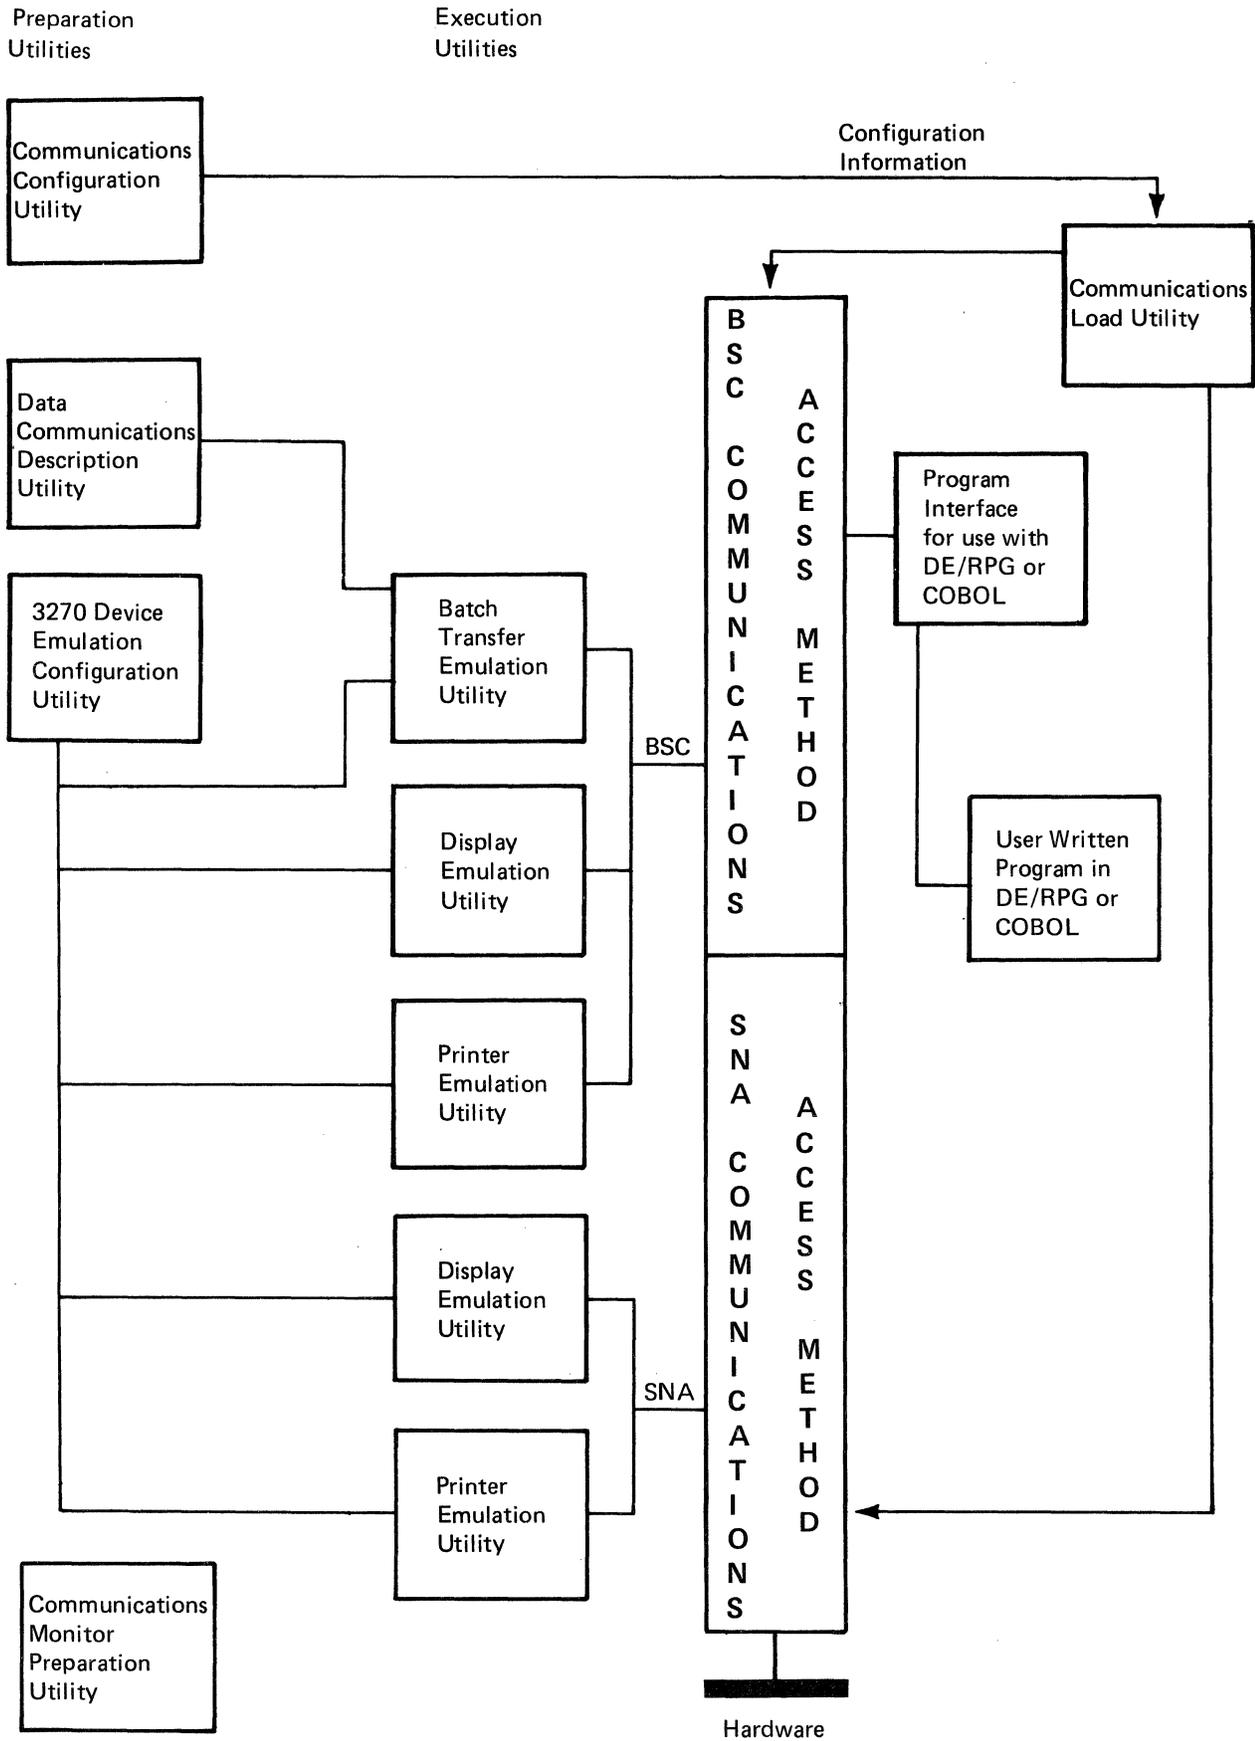

Figure 14-2. Relationship of Components within the IBM 3270 Emulation Licensed Program
- Figure 14-2 illustrates the parts and relationships of components within the IBM 3270 Emulation Licensed Program.